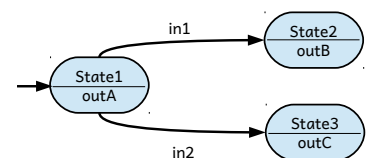

Figure 3: Outputs in a Moore machine
- *Moore machines* treat the production of an output as depending *only* on the *current state* (see Fig. 4). When drawn as a state diagram the output is annotated along with the state, as shown in Fig. 3.
Choose a Moore (Fig. 3) or Mealy (Fig. 5) structure, and select a number of flip-flops sufficient to store the encoded states. The structure should include (as-yet unfilled) blocks of combinational logic representing the *next-state logic* (combining inputs and the current state to generate a next state) and the *output logic* (combining the current state—and inputs if a Mealy machine—to generate an output).